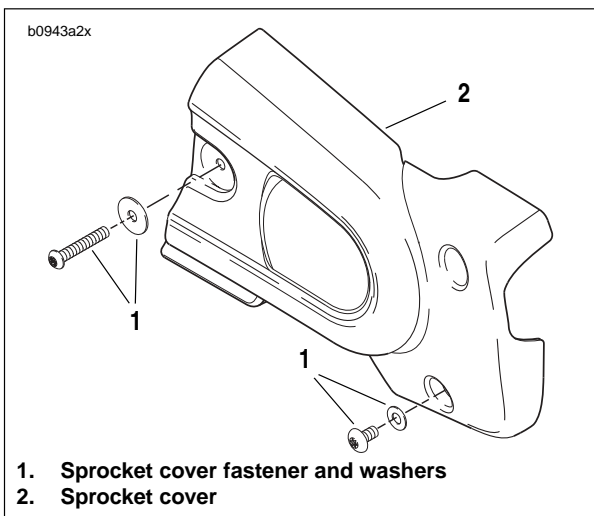
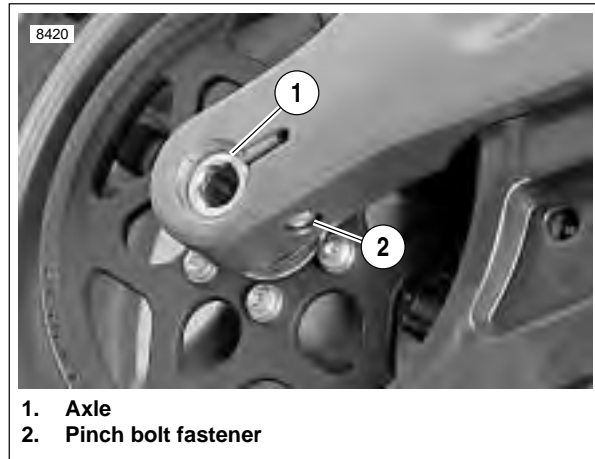

Figure 6-40. Sprocket Cover
Figure 6-41. Rear Wheel Mounting, Right Side
4. See Figure 6-40. Remove front sprocket cover (2) by removing fasteners. See 2.35 SPROCKET COVER.
5. See Figure 6-41. Loosen rear axle pinch fastener (2).
6. Loosen rear axle (1) approximately 15 rotations to allow partial tension to be removed from rear drive system.
5. See Figure 6-41. Tighten rear axle (1) to 23-27 ft-lbs (31.2-36.6 Nm), back off two full turns and then retighten to 48-52 ft-lbs (65.1-70.5 Nm).
6. Tighten rear axle pinch fastener (2) to 40-45 ft-lbs (54-61 Nm).
7. See Figure 6-40. Install front sprocket cover. See 2.35 SPROCKET COVER.